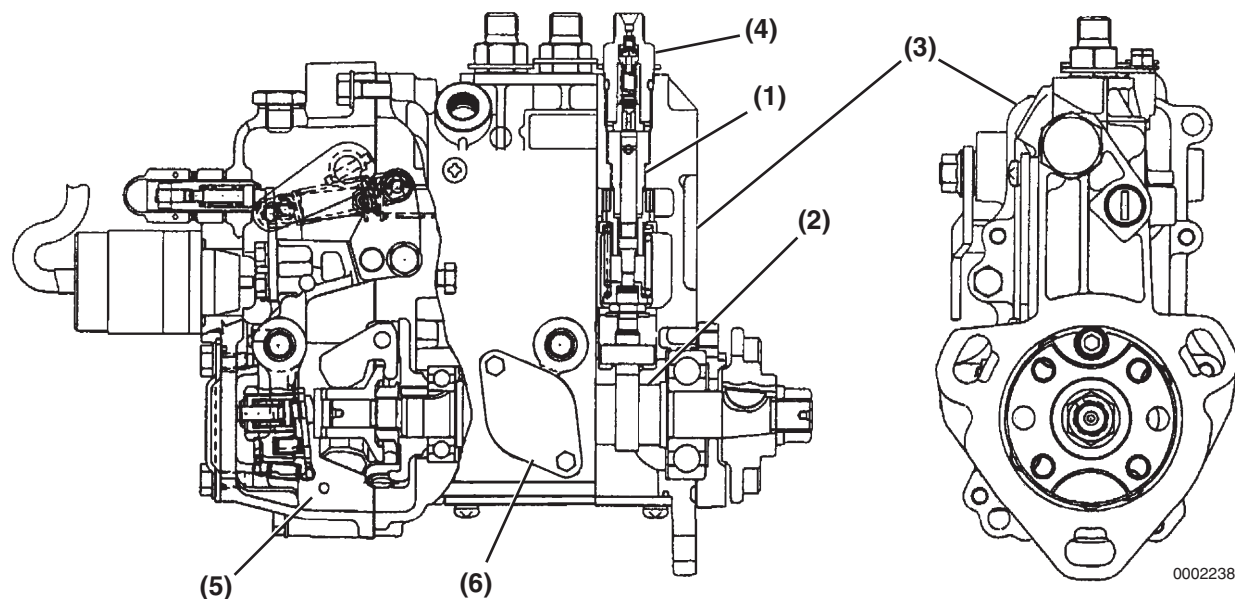

Figure 7-1
The Yanmar ML Fuel Injection Pump is an in-line type pump which consists of a fuel supply plunger (**Figure 7-1, (1)**) for each cylinder, a camshaft (**Figure 7-1, (2)**), and a pump housing (**Figure 7-1, (3)**). A delivery valve (**Figure 7-1, (4)**) connects to a high-pressure fuel line for each cylinder. The fuel injection pump housing contains a governor (**Figure 7-1, (5)**).
Fuel from the fuel tank to the fuel injection pump is delivered by a low-pressure electric fuel pump. On a few special models, a mechanical fuel pump is used instead of an electric pump. The mechanical fuel pump is mounted to the fuel injection pump housing in place of the cover plate (**Figure 7-1, (6)**).